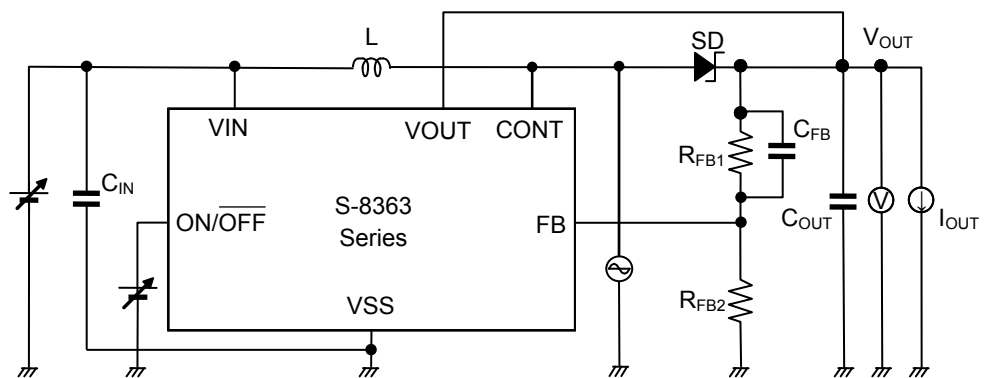

Figure 6
*1. This is the guaranteed value measured with external parts shown in “Table 6 External Parts List” and with test circuits shown in Figure 6. The operating start voltage varies largely depending on diode’s forward voltage. Perform sufficient evaluation with actual application.